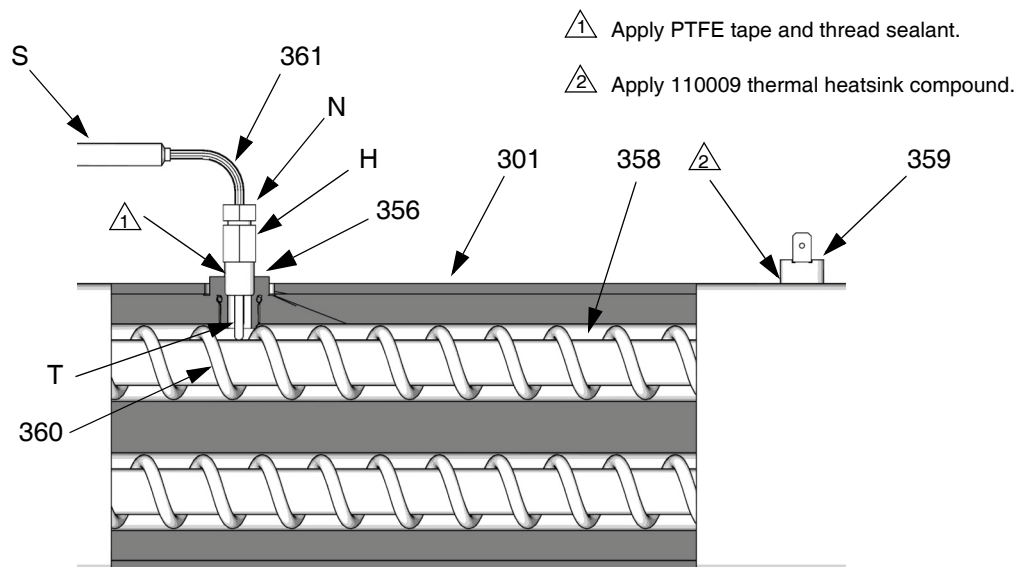

### FIG. 7. 6 or 10 kW Dual Zone Heater
5. See FIG. 7. Disconnect heater element wires from heater wire connector. Test with ohmmeter.